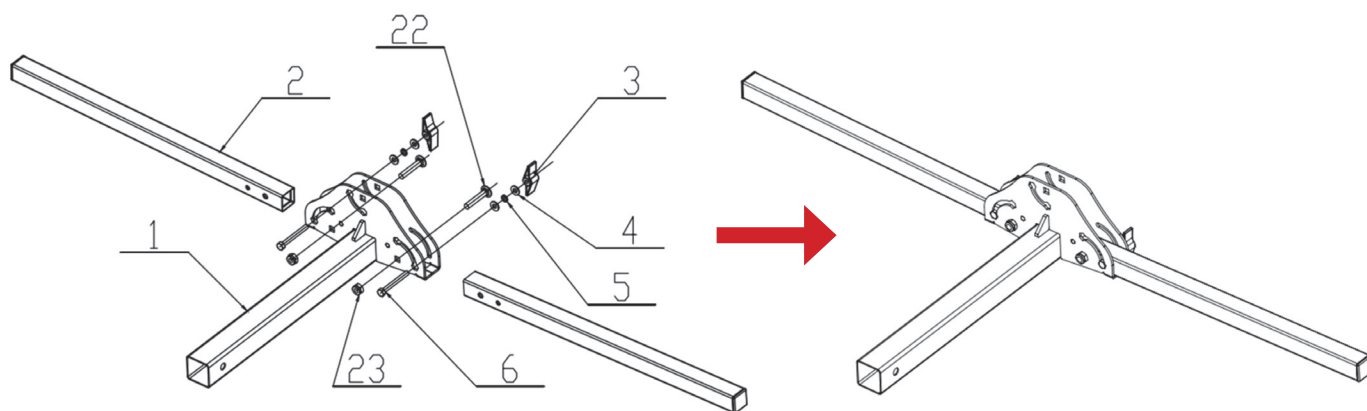

FIGURE 1
(2) 5/16" hexagon bolt, (2) M10 Carriage bolts and (2) M10 Locknuts (parts #3, #4, #5, #6, #22 and #23). (See **Figure 1**)